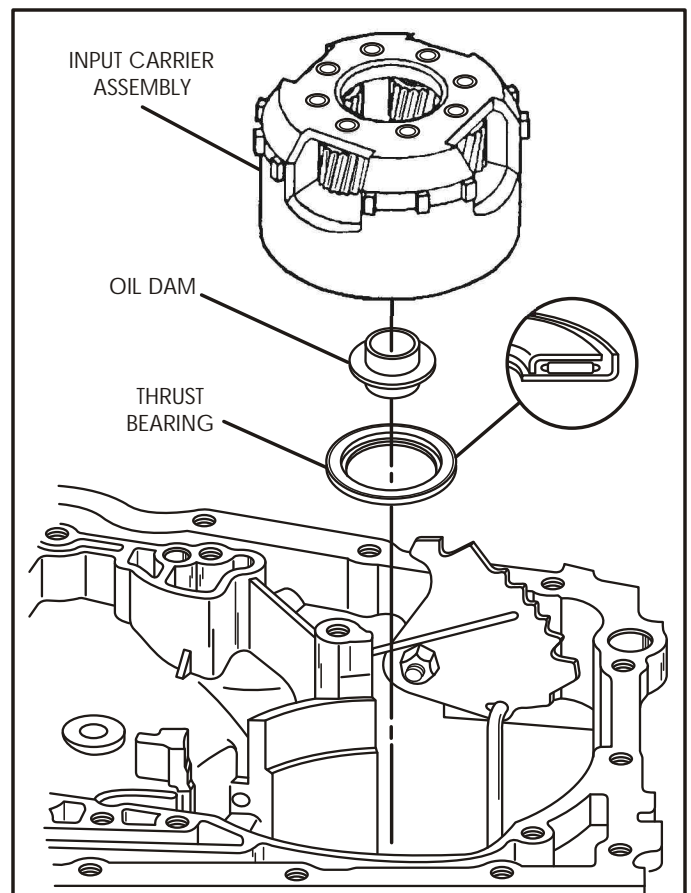

Figure 160
42. Install the oil dam into the input carrier and the thrust bearing into the input carrier in direction shown in Figure 160. Retain bearing assembly with petrolatum.
43. Install the input carrier into case by rotating into position to engage the reaction carrier. Refer to Figure 160.